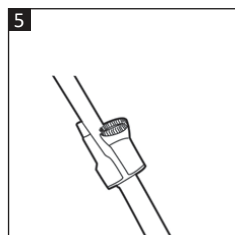

Fig. 5
- The accessories holder (3) can be clipped onto the telescopic tube (20) to keep cleaning tools handy during cleaning (**Fig. 5**).